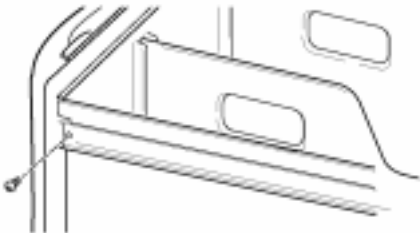

Fig. 2-8
11. Pull both drawer slides out and reassemble the drawer to the drawer slides with the two (2) Phillips head screws. *(Fig. 2-8)* Use of the two (2) dividers is optional. Close the drawer.